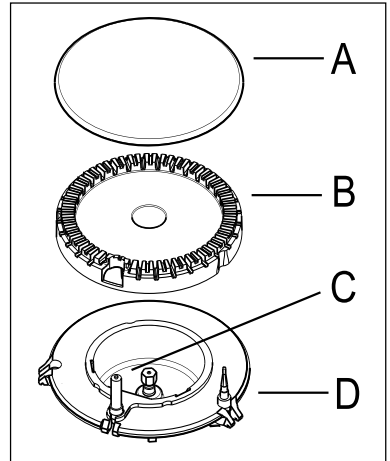

Fig. 1
- Upon ignition, keep the knob pushed down about **5 seconds**. This will allow the "thermocouple" (Fig. 1 - letter **D**) to be heated and the safety device to be switched off, otherwise the gas supply would be interrupted.
The electric ignition is obtained through a ceramic electrode which contains a metal electrode (Fig. 1 - C). Keep these components very clean, to avoid difficult lighting, and check that the burner crown holes (Fig. 1 - B) are not obstructed.